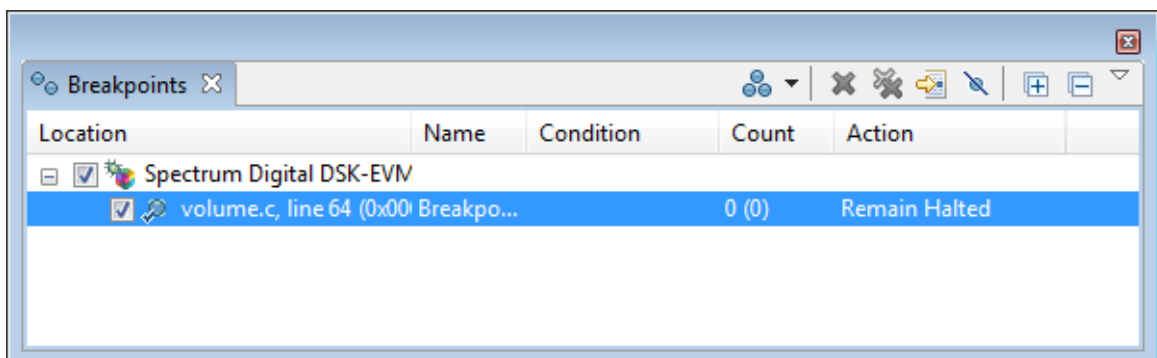
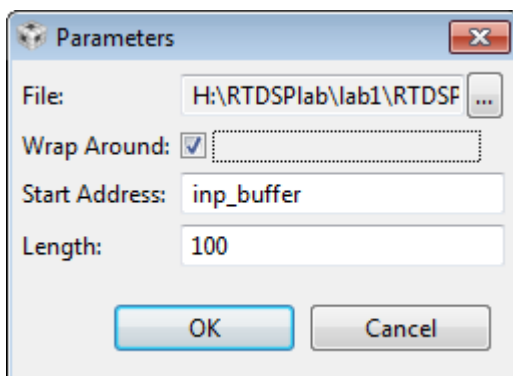

Figure 18: Breakpoints window
Figure 19: Settings for connecting *sine.dat* to input buffer
- Select **View→Breakpoints** from the menu. A window will appear (figure 18). In the **Action** column select **Read Data from File**. A pop-up will appear (similar to figure 19).
- In the Parameters dialog, change the **Start Address** to **inp_buffer** and the **Length** to 100. Also, put a check mark in the **Wrap Around** box (see figure 19).